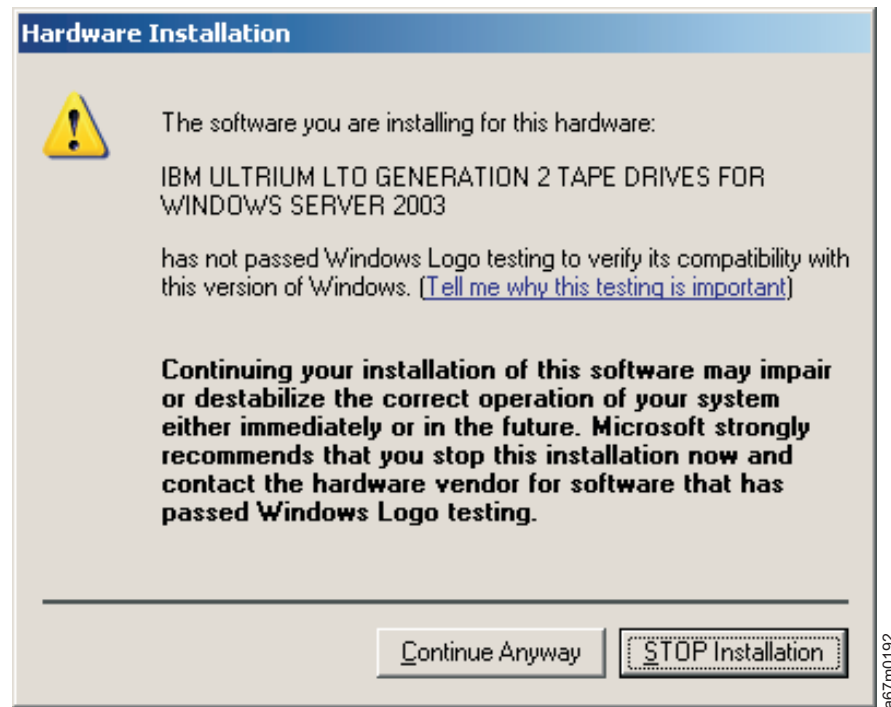

Figure 38. Windows Logo Testing Screen
21. If you are installing a driver that has not been certified by the Microsoft Windows Hardware Quality Laboratories (WHQL), you will be presented with a warning screen. See Figure 38 on page 219. If you want to continue installing the driver, select **Continue Anyway**.